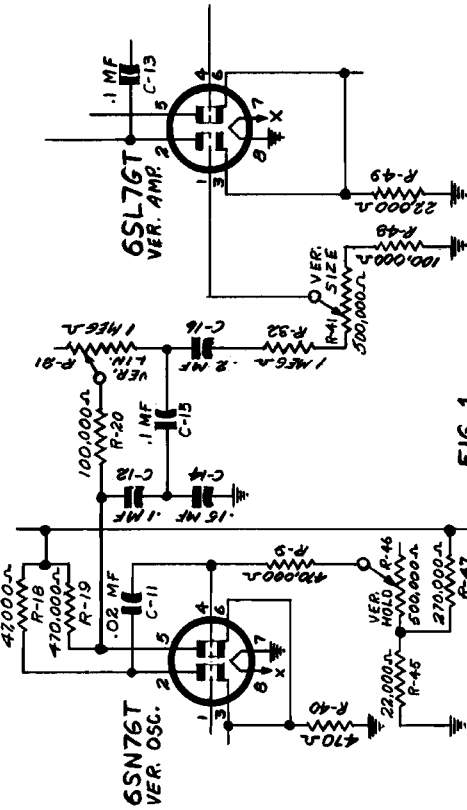
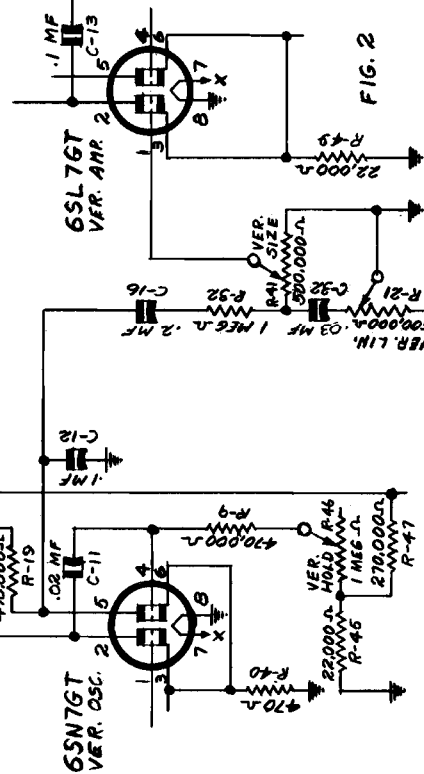

FIG. 1
FIG. 2
5. TO IMPROVE THE VERTICAL LINEARITY, THE 6SN7GT VERTICAL OSCILLATOR CIRCUIT, SHOWN IN FIG. 1, HAS BEEN CHANGED AS SHOWN IN FIG. 2.